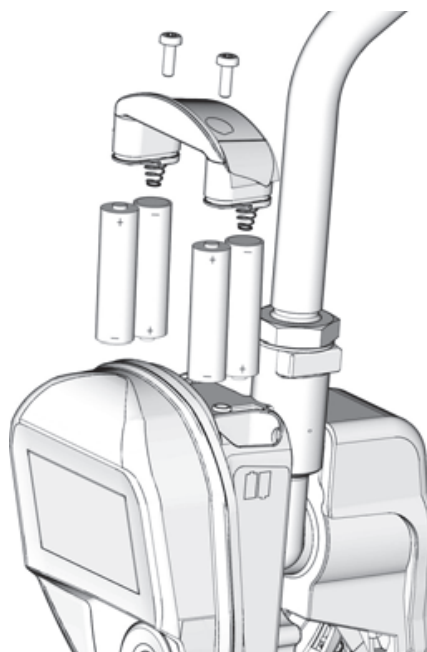

FIG. 76
- Be sure to follow the correct polarity as shown on the installation labels located on either side of the metered dispense valve when installing batteries in the battery compartment (FIG. 76).
4. Install 4 new batteries. See labels on the each side of the housing and FIG. 76 for battery orientation.